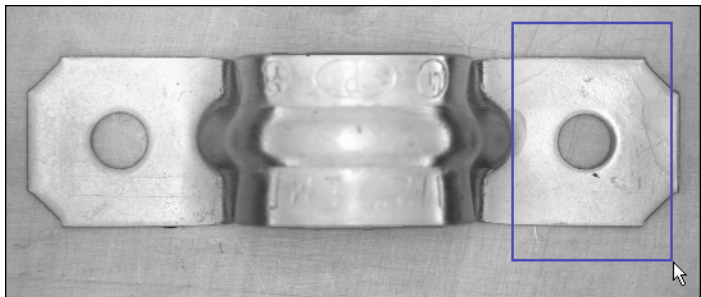

Figure 4-4. Selecting the Second Search Area
20. With the **Rectangle Tool**, draw a region of interest around the right side of the bracket, as shown in Figure 4-4. Vision Assistant automatically locates the template in the region bound by the rectangle and displays the score and location of the match.